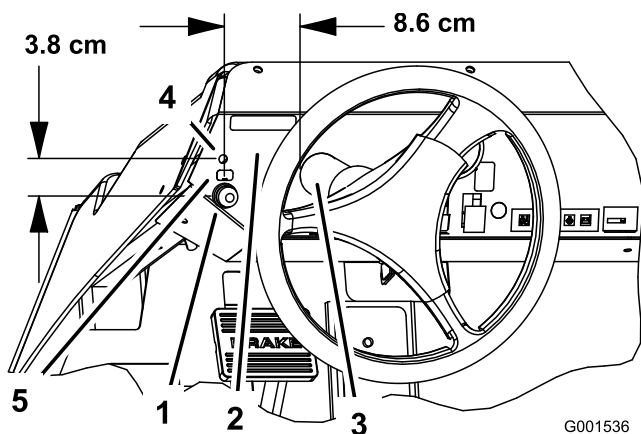

Figure 3
4. To locate the hole for the horn button, measure 8.6 cm (3-3/8 inches) to the left of the steering column base and 3.8 cm (1-1/2 inches) from the center of the dash screw head (Figure 3).
2. Remove the backing of the new decal and place just above the horn button on the dash (Figure 3).